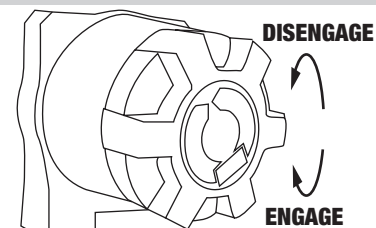

FIGURE 7
Turn clutch handle to the disengage position shown on decal (FIGURE 7). NEVER RELEASE FREE-SPOOL CLUTCH WHEN THERE IS A LOAD ON THE WINCH. DO NOT FORCE THE HANDLE. Release tension on the clutch by winching out some of the wire rope. Release the clutch and pull out the wire rope and secure to anchor or load. Check that there are at least five (5) wraps of wire rope left on the drum. Re-engage the drum by returning the clutch handle to the engaged position. (FIGURE 7)
Step 4 Turn the freespool clutch handle to the Disengage position (See FIGURE 7). Pull 5 feet of wire rope off the drum. Return the freespool clutch handle back to Engaged position. Activate the Winch cable in and out by momentarily pressing the hand held switch to check drum rotation direction. The switch is labeled "IN" for winching in and "OUT" for winching out. When released the switch will automatically go to the off position. **IF THIS DOES NOT OCCUR THEN TAKE THE PLUG OFF THE RECEPTACLE.**